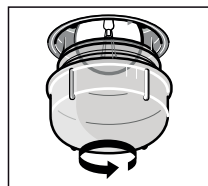

Fig. 6
2. Unscrew the glass cover in the anti-clockwise direction according to Fig. 6 and replace the bulb with a bulb of the same type and parameters.